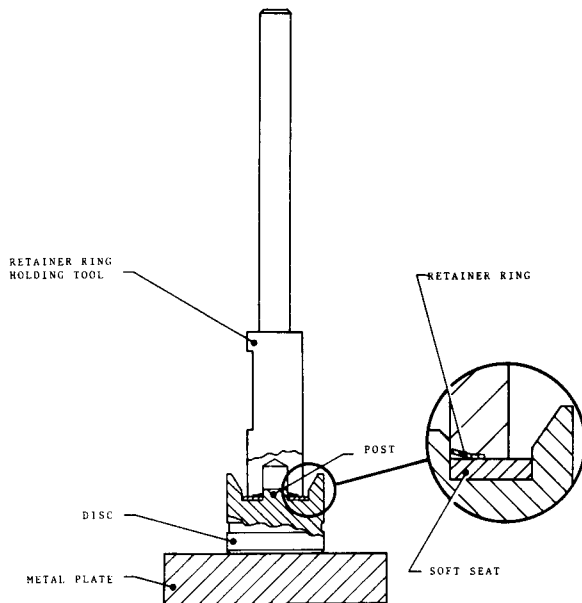

FIGURE 1
- a. Clean disc and place it on a level metallic plate as shown in Figure 1. Disc surface having the spindle pocket will lie on the metal plate.
- b. Pick-up proper soft seat; clean this with lint free cloth. Inspect it for nicks, cuts, dents (defective soft seat should be rejected). Place soft seat onto the disc as shown in Figure 1.
- c. Pick-up proper retaining ring and tool assembly (see Table 1). Place retaining ring on the disc post (see Figure 1). Subsequently put the retaining ring tool assembly in a mechanical press (not shown in Figure 1). By applying slight force, position retaining ring over the disc post. Inspect the ring to ensure its proper positioning. Subsequently, press the ring hard enough to move it down to provide tight retaining of the soft seat. A properly assembled soft seat will be somewhat compressed by the retaining ring.